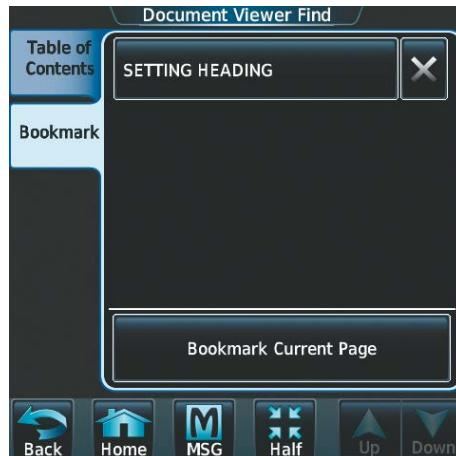

Figure 8-114 Bookmark Created
- 5) Touch **OK**. The newly created bookmark is displayed as in Figure 8-114.